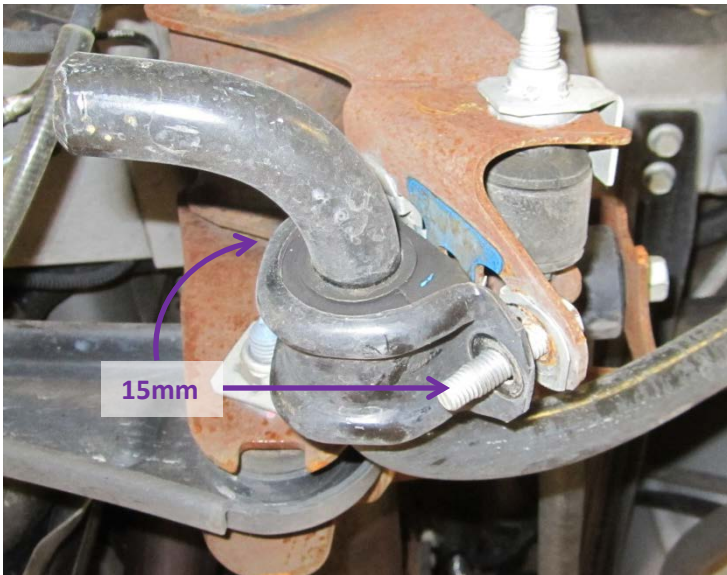

Figure 7
13. Remove the two U shaped clamps which hold the rear sway bar ends to the shock mounts using 15mm deep socket or wrench. See Figure 7.